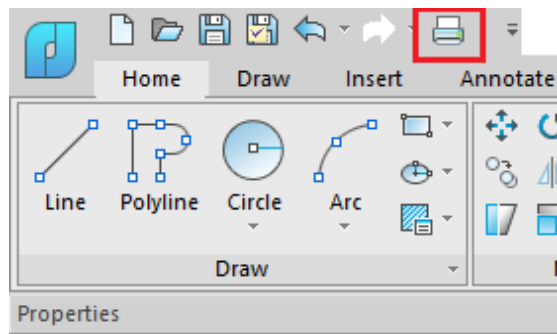

Fig. 50. The **Plot** command
6.3. Click the **Plot** button in the **Quick Access** bar (fig. 50):